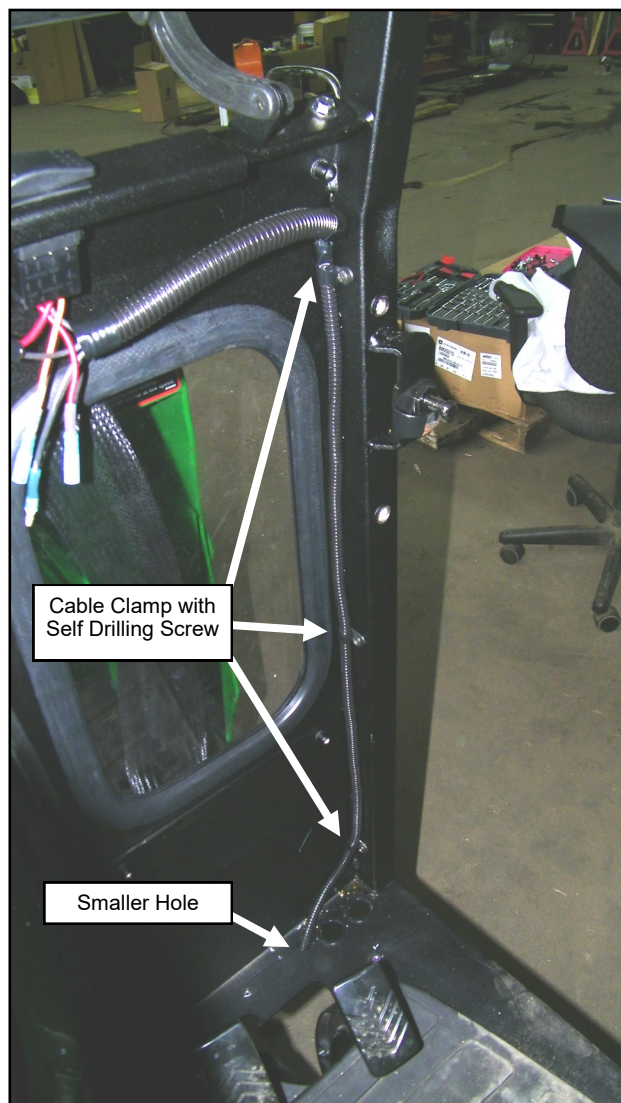

Fig. 13.5 (Secure Wire Harness)
13.5 Thread the wiring harness through the smaller hole in the floor board. See figure 13.5.
13.6 Taking up slack as you work your way down, secure the wiring harness to the A-pillar with p-clips and self-drilling screws. See figure 13.5. Clean up metal shavings afterward.